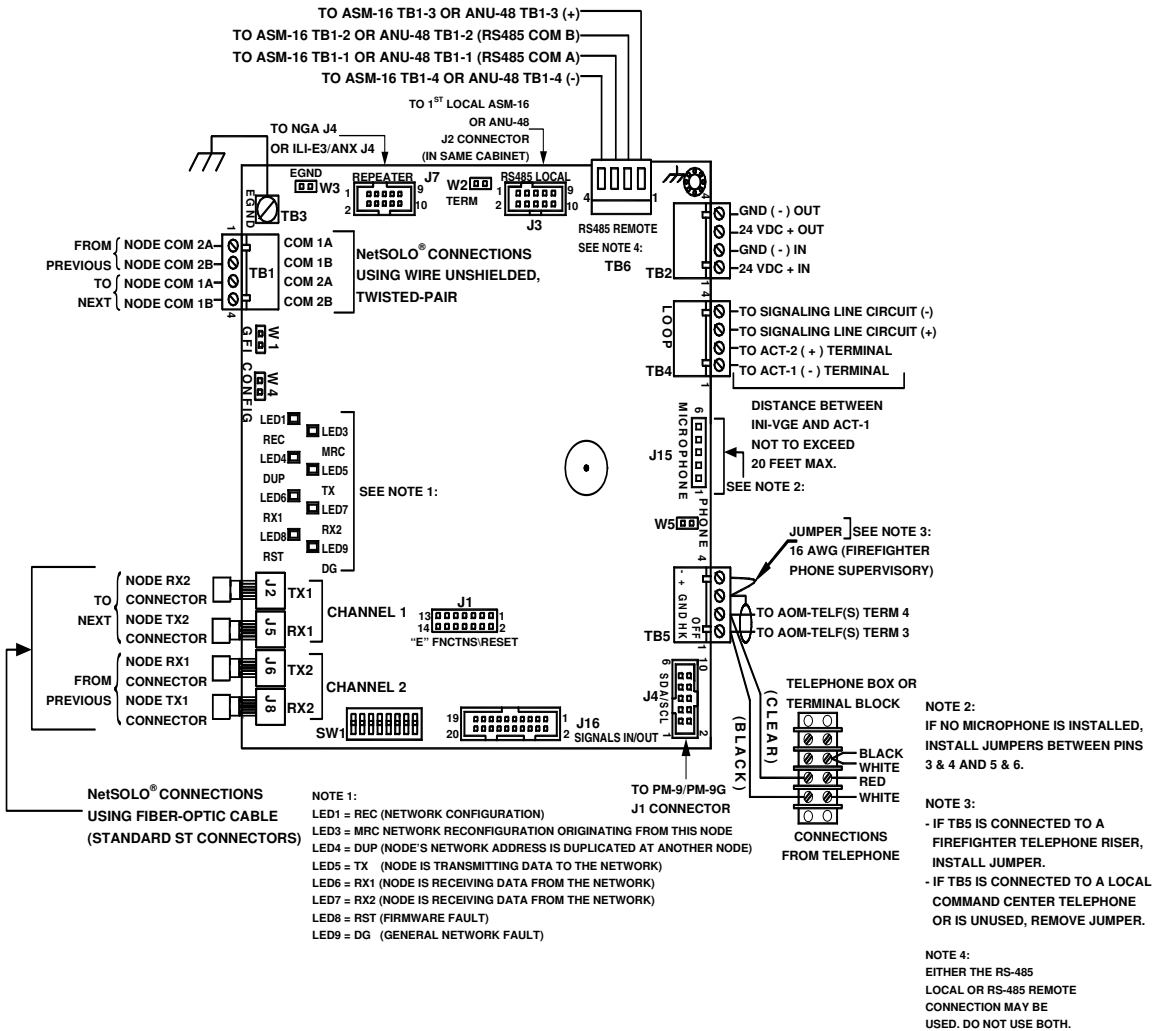

Figure 3.2.1.1 INI-VGE Power Connection
In the INCC enclosure, the INI-VGE sub-assembly connects to the E3 Series Classic System microphone and fire fighter telephone handset, and supervises and controls up to six (6), ANU-48 or ASM-16 sub-assemblies. Figure 3.2.1 shows all the available connections on the INI-VGE and their functions.
The INI-VGE-FO or INI-VGE-UTP serving as the network interface and control unit of an INCC-C Command Center connects to its operating power via Terminal Block TB2. Figure 3.2.1.1 illustrates the INI-VGE power connections.